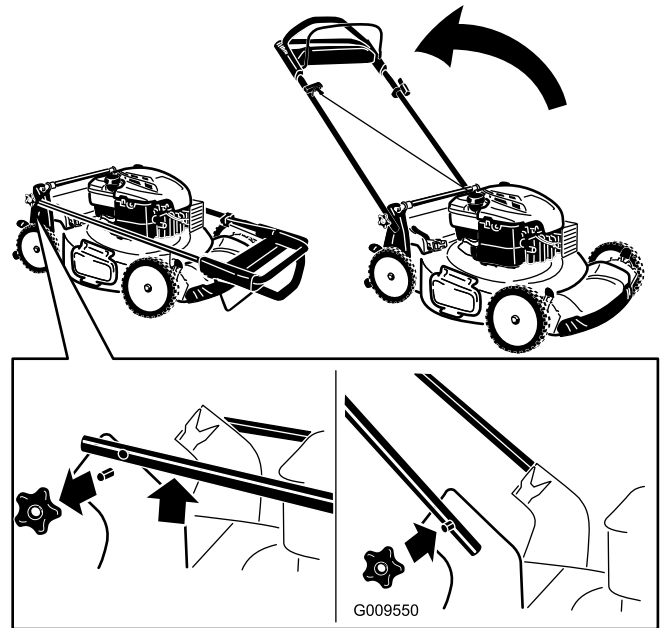

Figure 4
3. Install and tighten the handle knobs that you removed in step 1 (Figure 4).
1. Remove the handle knobs from the mower housing (Figure 4).